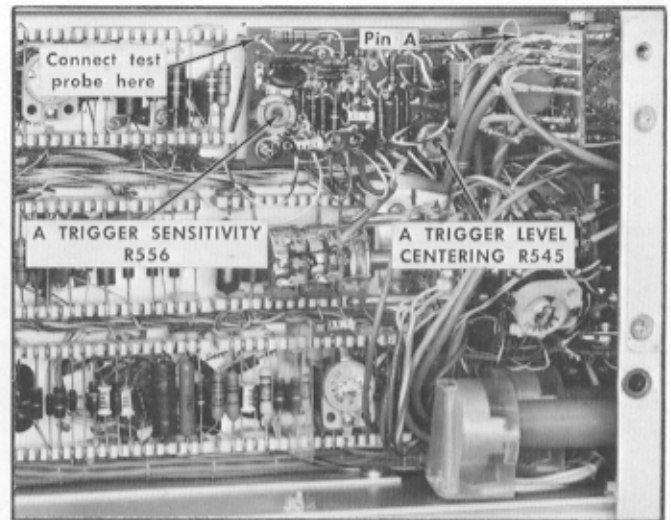

Fig. 6-30. External triggering adjustment locations, A sweep.
x. Adjust Trigger Sensitivity R556 and Trigger Level Centering R545 for a stable display on the test oscilloscope as in step (m). The locations of R556 and R545 are shown in Fig. 6-30.
- a. Connect the $10\times$ probe to pin A (to grid of V534B) on the A trigger switch board (see Fig. 6-30). Check that the Type 556 A Triggering SLOPE switch is set to +. Set the test oscilloscope vertical deflection switch to 0.2 Volts/cm.